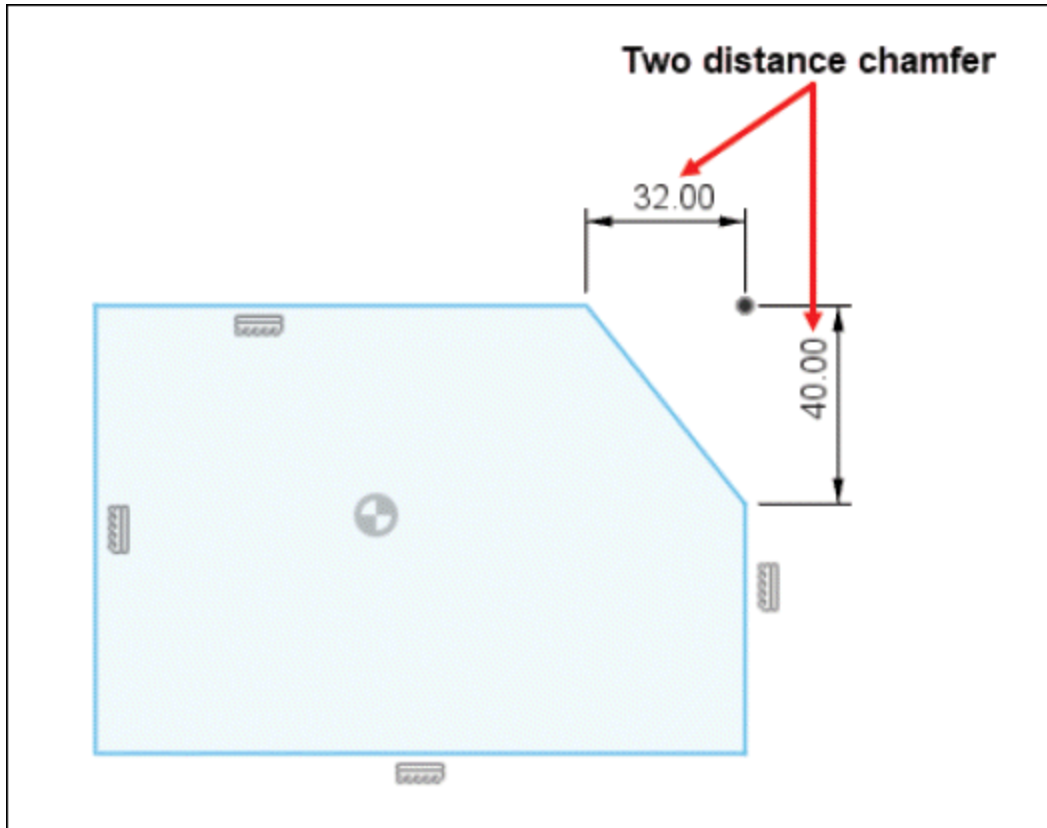

Figure-77. Two distance chamfer created
- After specifying the second distance of chamfer, press **Enter**. The two distance chamfer will be created; refer to Figure-77.